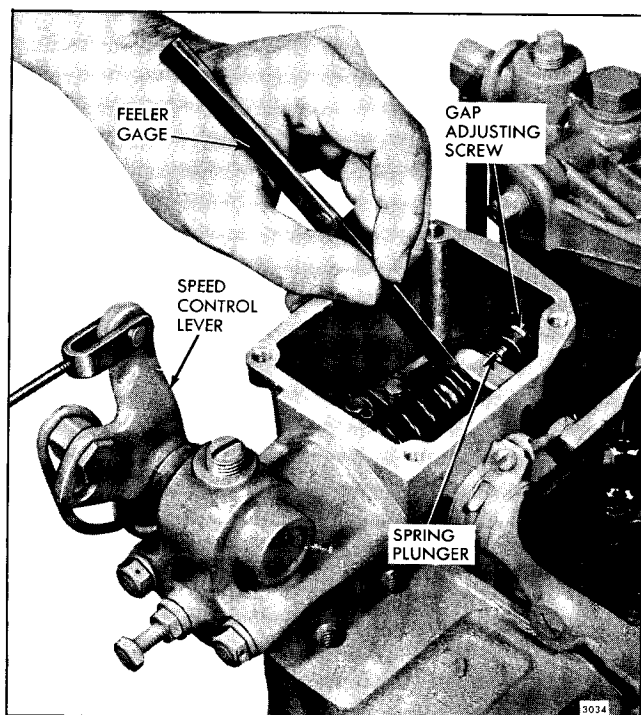

Fig. 1 - Adjusting Governor Gap
2. Place speed control lever, Fig. 1 in the maximum speed position.